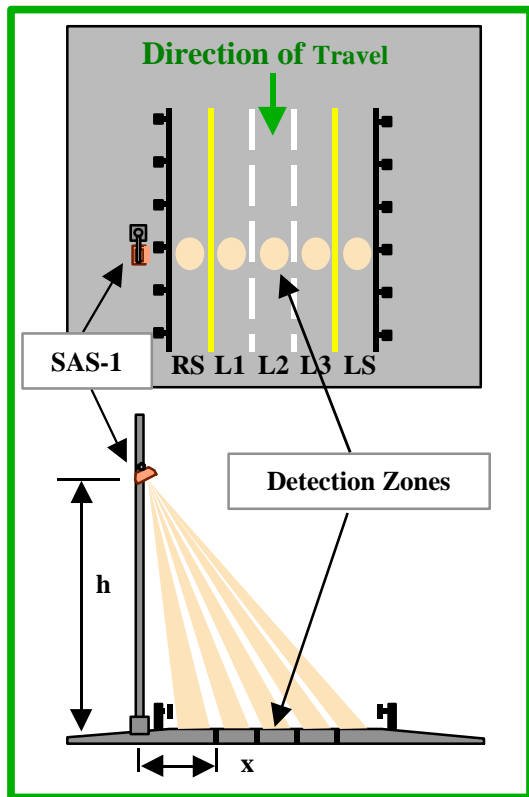

Figure 4 Side Mounting for Multilane Monitoring
The maximum number of zones or lanes monitored by the current SAS-1 configuration is set at five (5). Figure 4 shows a typical side mount installation geometry for monitoring 3 lanes and 2 shoulders. The detection zone or lane limit of five (5) is driven by constraints for typical side mount geometry (resolution and occlusion of the far lanes). The ability of SAS-1 to separate or resolve lanes far from the sensor (lanes 4 and 5) is highly dependent on the installation geometry. If SAS-1 is installed high enough (30 to 35 ft) and close enough to the active lanes to be monitored, vehicle detection performance will be excellent for all lanes monitored. If SAS-1 is installed at a lower height or further from the active lanes to be monitored, vehicle detection performance for the lanes furthest from the sensor will be degraded.
Existing highway structures (light poles, sign bridges, overpasses, etc.) are completely suitable for mounting the SAS-1 for multi-lane traffic monitoring. There is no need to mount the SAS-1 over any active lanes (Figure 4). The SAS-1 can provide effective lane by lane monitoring for up to five (5) lanes. The typical height of the SAS-1 mounting position should be 25 to 35 feet (at least 30 ft if four or five lanes are to be monitored). The horizontal distance from the first active lane should be 10 to 20 feet or less. Mounting the SAS-1 just off the shoulder is a good position. Higher mounting positions reduce possible occlusion of smaller vehicles by tall trucks.